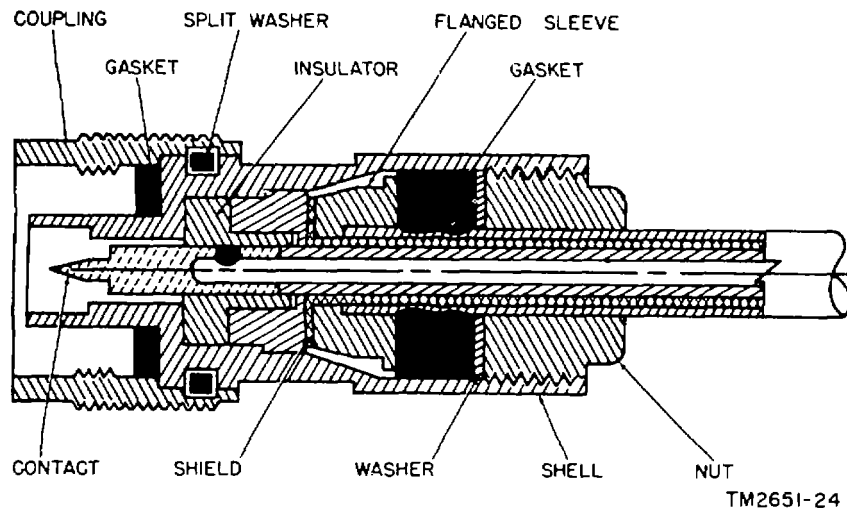

Figure 29. Cross section of coaxial cable and connector.
- (1) The only readily replaceable part of the antenna tuner is lamp bulb E1 in the tuning unit. Replace as follows:
- (2) The only item of the antenna tuner which can be readily repaired is the coaxial cable (fig. 29).
- (3) Radio Frequency Cable RG-59A/U has four layers—an outer jacket, copper braid, polyethylene insulation, and a copper conductor. To install a connector on the end of a cable, proceed as follows:
- (b) Disassemble the connector (fig. 29).